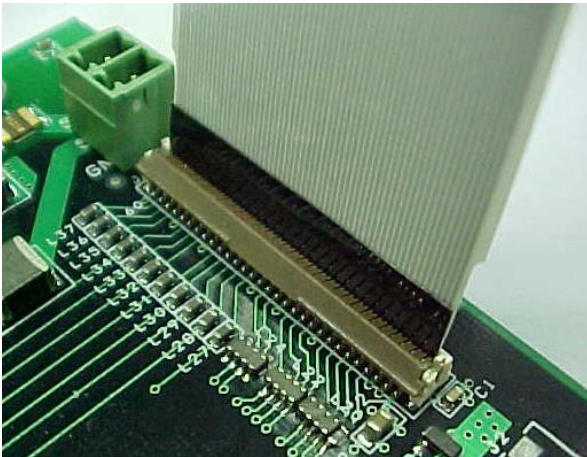

Figure 7.6 Cam Lock Down (Closed Position)
2. Gently insert the cable with the dark insulated side towards the cam (see Figure 7.6). When inserting the cable, ensure that it is not tilted to one side and that the bottom of the cable is completely seated in the connector.